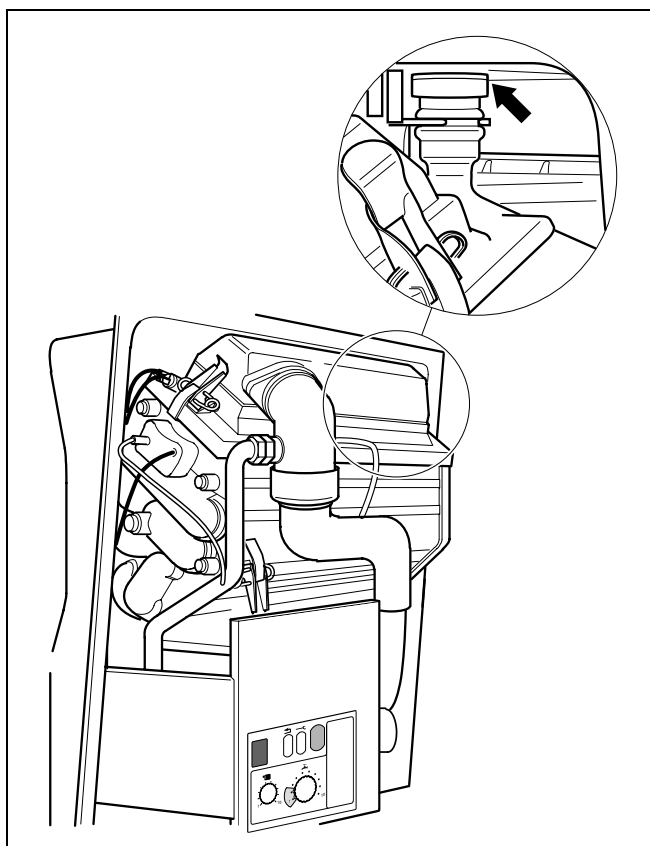

fig. 52 Condensate water bypass sealing cap
- Visual inspection to see if there is a white sealing cap on the condensate water bypass (fig. 52).